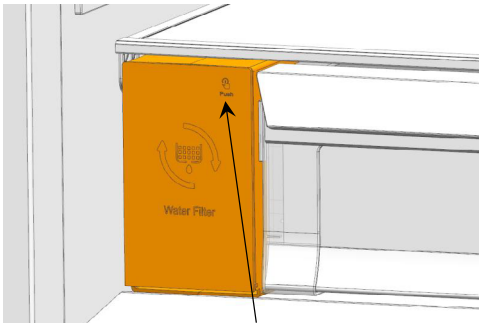

Figure 1
1. Units are shipped with a water filter already installed for immediate use. To replace the filter, press in the button on the front of the filter cover and move the filter cover downward (Figure 1).